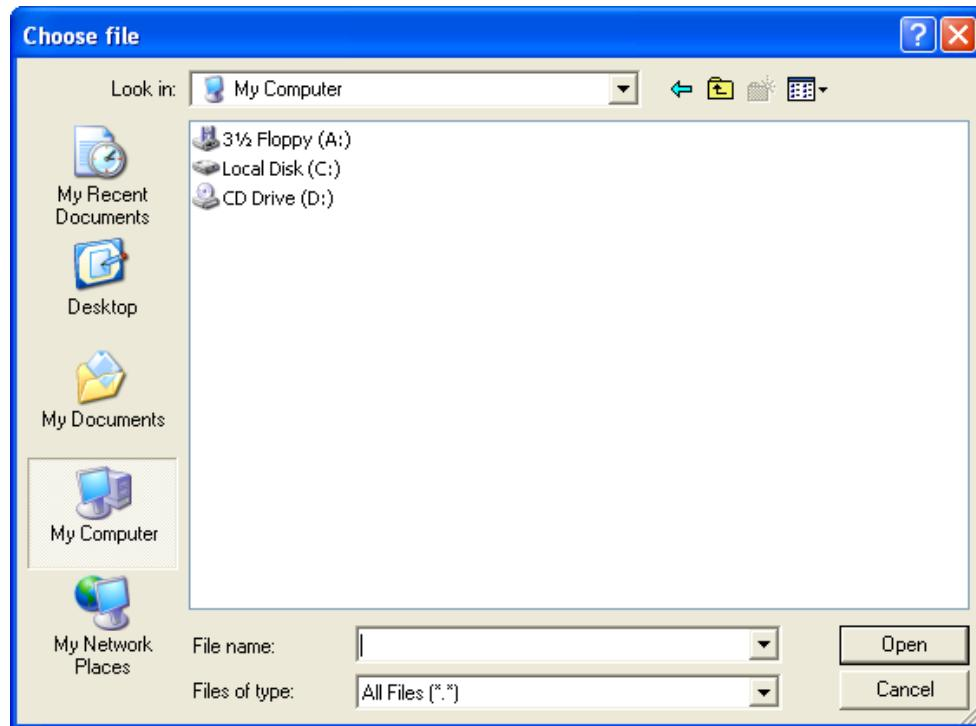

Figure 9-2: Choose File Window
4. To load the firmware file, select the *Browse* button. A *Choose File* dialogue window will appear as shown in Figure 9-2.